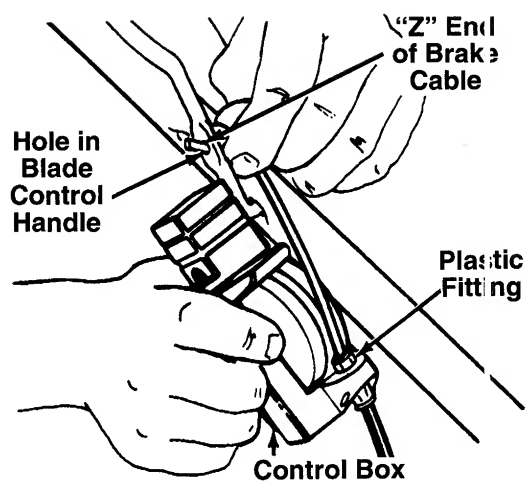

FIGURE 3.
4. Route the brake cable above the handle. Insert the "Z" end of the brake cable into the control box as shown in figure 3. Push the plastic fitting until it locks into the control box.
5. Holding the control box near the left side of the upper handle (control box must be inside the handle), hook the "Z" end of the brake cable into the control handle from the **outside** to the **inside**. See figures 3 and 4.